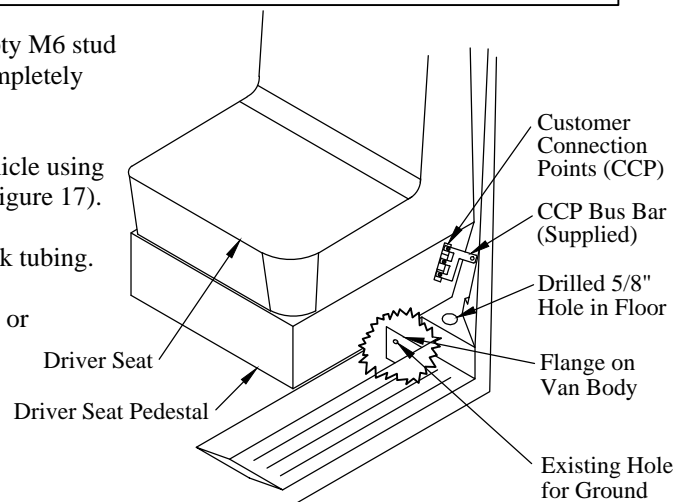

Figure 17: Customer Connection Point location.
2. **Remove** the plastic cover from the Customer Connection Points (CCP) on the driver seat pedestal (only if using the CCP for power, Figure 17).
5. **Drill** and **Deburr** a 5/8" hole in the floor next to the driver seat in the location shown (Figure 17).
6. **Install** the supplied bus bar on the CCP studs using three (3) supplied M5 nuts and star washers (only if using the CCP for power, Figure 17). The bus bar combines three (3) 60 amp connections into one 180 amp connection point.
7. **Route** the power cables under the vehicle from the liftgate, along the driver side frame, to a location under the driver door (Fig. 17).
11. **Cut** the remaining positive(+) lead long enough to reach from the circuit breaker battery (BAT) terminal to the bus bar connection on the driver seat pedestal (Figure 17) or the positive(+) battery terminal.
12. **Cut** the negative(-) lead to the length required to reach a vehicle ground point under the vehicle (Figure 17).
14. **Connect** the negative(-) lead to a vehicle ground point under the vehicle using the supplied 5/16" x 1/2" bolt, lock nut, and heat shrink tubing (Figure 17).